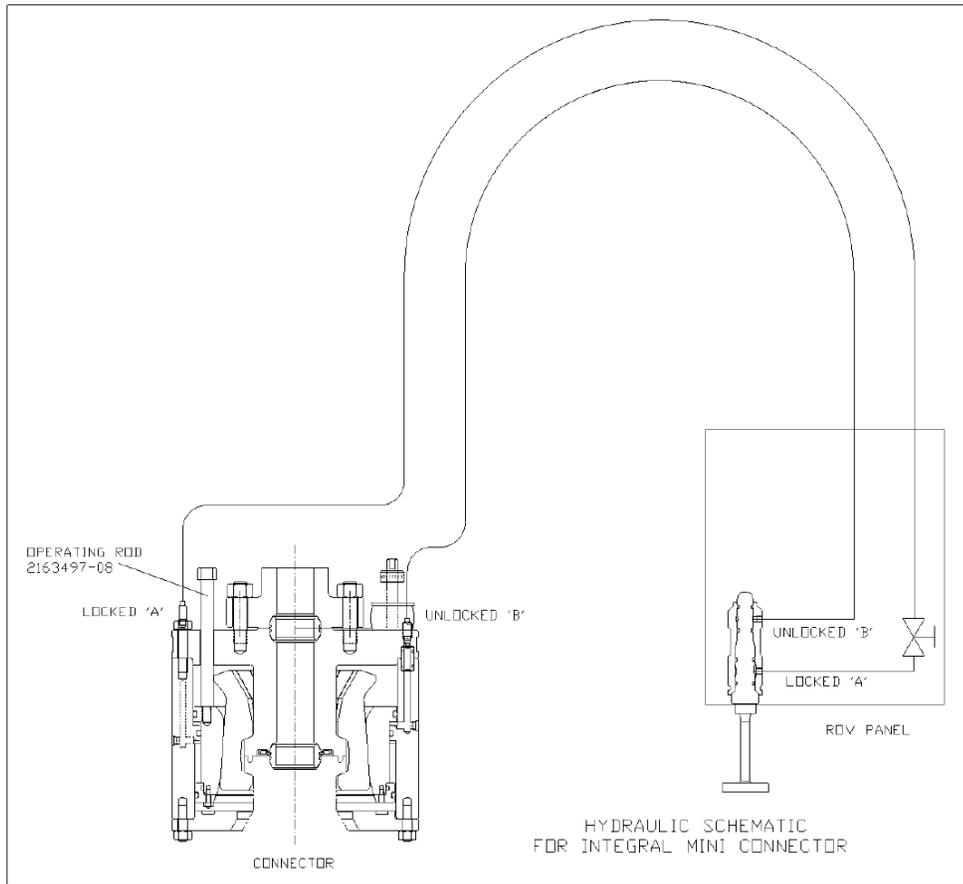

Figure 2: Locking & Unlocking P&ID
- 5.1 Mark the operating rods PN: 2163497-08 with paint to use as lock and unlock visual indicators. (See Figure 2)
- 6.4 Pressurize Port B (Unlock Circuit) of the ROV dual port hot stab to 3,000 psi to ensure the actuator ring is stroked up. (See Figure 2) Maintain pressure.
- 7.4 Pressurize Port B (Unlock Circuit) of the ROV dual port hot stab to 3,000 psi. (See Figure 2)